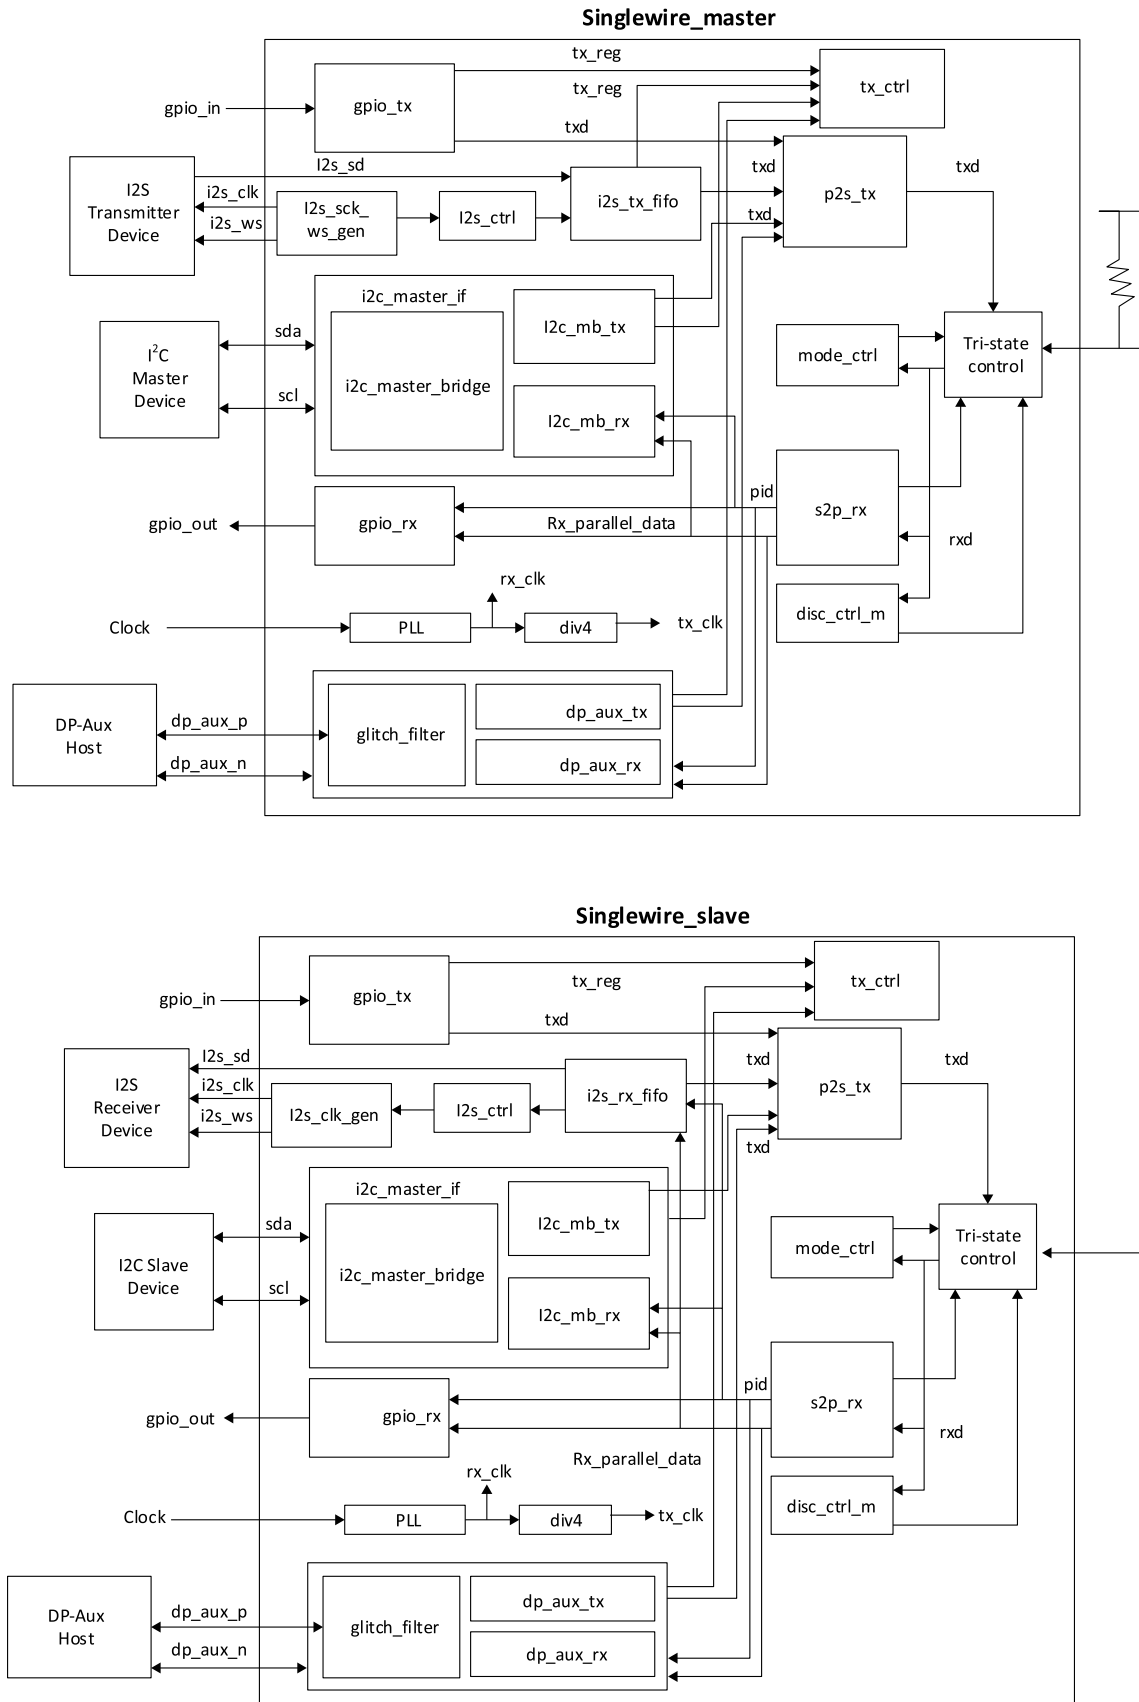

Figure 1.1. Single-wire Block Diagram
- Retransmit feature is offered when parity error is detected on the Receiver (RX) side. This feature is applicable for I²C and GPIO data.
Figure 1.1 shows a block diagram of the Single-Wire reference design (RD) in a typical configuration with DP AUX, I²C, I2S, and GPIO aggregation, which has a Master FPGA and Slave FPGA. There are two essential design differences between the Master FPGA and Slave FPGA:
- The Master FPGA always wins the very first transmitter (TX) request contention after power-up.